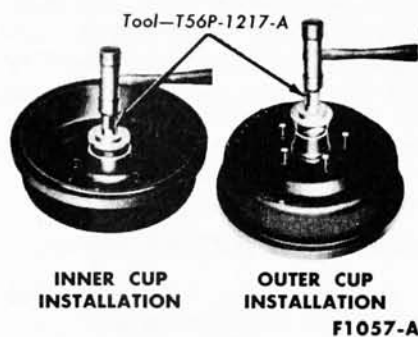

FIG. 7—Front Wheel Bearing Cup Installation
9. If the inner and/or outer bearing cup(s) were removed, install the replacement cup(s) in the hub with the tool shown in Fig. 7. **Be sure to seat the cups properly in the hub.**
12. Place the inner bearing cone and roller assembly in the inner cup, and install the new grease retainer with the reverse end of the tool shown in Fig. 7. **Be sure that the retainer is properly seated.**
from the new hub and drum with carburetor degreaser. Install new inner and outer bearing cups in the new hub with the tool shown in Fig. 7. **Be sure to seat the cups properly in the hub.**